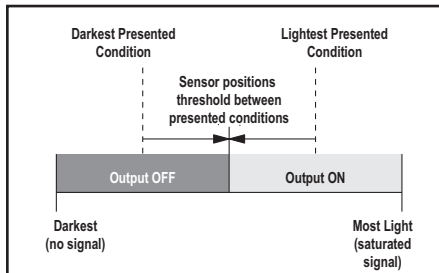

Figure 4. Dynamic TEACH (Light Operate shown)
- Teach on-the-fly during actual sensing conditions, taking multiple samples of the light and dark conditions and automatically setting the threshold at the optimum level (see Figure 4).